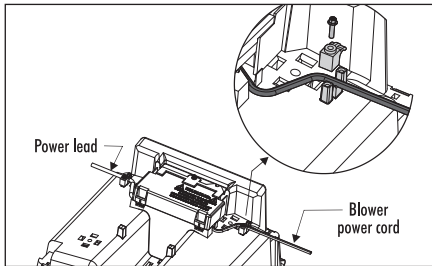

Fig. 13
2. Cut plug from end of blower power cord and strip wires 10mm. Make the necessary electrical connections i.e. connect wiring from blower assembly and wall switch to terminal block as per circuit diagram. For models 11511, 12511 and 11532 reposition terminal cover on top of the Tastic unit and then secure with screw. Fit two cord anchor clamps as per Fig. 13.